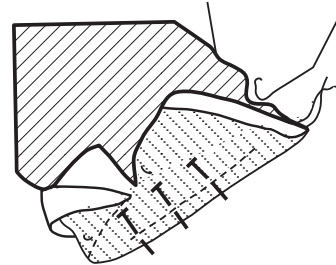

Figure 20
1. Pin the band to the sleeve with right sides together. Make sure the interfaced side of the band is against the sleeve. Match the seam edges, notches, dots, and ends of band to ends of sleeve. Place pins on the sleeve side (Figure 20).
2. Sew on 5/8-in. seamline with sleeve side facing up (Figure 20).